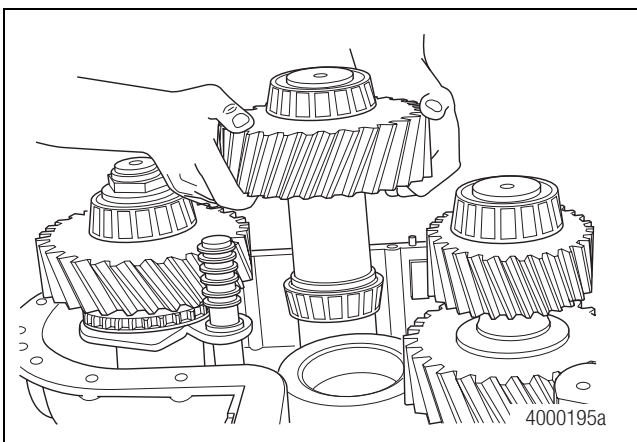

Figure 4.19
9. Remove the single-gear idler shaft on MTC-4213X, or rear output on MTC-4208X/XP/XL and MTC-4210X/XP/XL, and the double-gear idler shaft from the case. Figure 4.19.